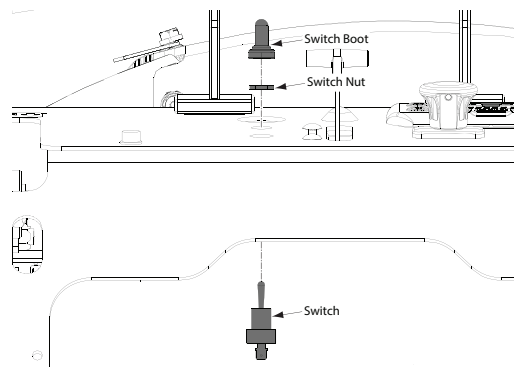

Figure 3. Switch Install
6. Install the on/off switch, See Figure 3. (leave the switch boot off and the switch nut loose for switch orientation later)